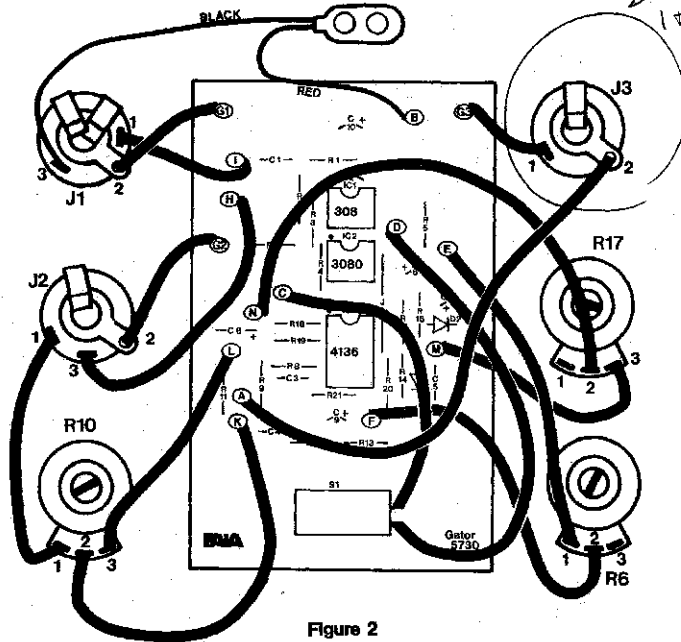

Figure 2
- () Install the foot switch S1 by inserting the mounting shaft into the large hole in the circuit board from the COMPONENT side. Thread one of the hex nuts provided onto the shaft of the switch and tighten it against the conductor side of the board. Orient as shown in figure 2.
In the following steps the insulated wire provided with this kit will be used to make the connections between the controls and jacks, and the circuit board. At each step, prepare the wire by cutting it to the specified length and stripping 1/4 inch (.7cm) of insulation from each end. "Tin" each end of the wire by twisting the strands together and melting just enough solder into the wire to hold the strands together. To be sure you will have sufficient wire for all steps, "rotate" through the strands available. At each step solder both ends of the wire. Refer to figure 2.